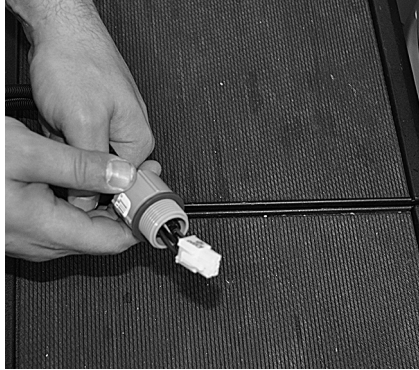

Figure 3-6. Routing Harness Through Fitting
10. Route the six pin connector through the plastic fitting and one green gasket. See Figure 3-6.